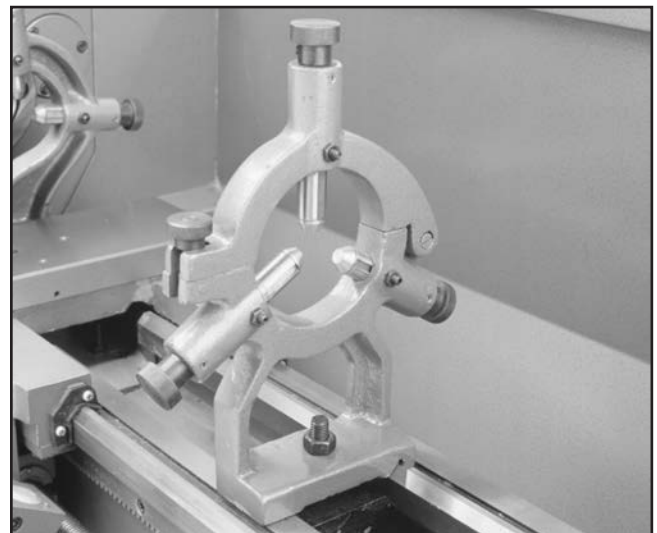

Figure 10. Steady rest in place.
2. A single hex bolt, along with a nut and washer, is used to hold the steady rest in place. See **Figure 10**.